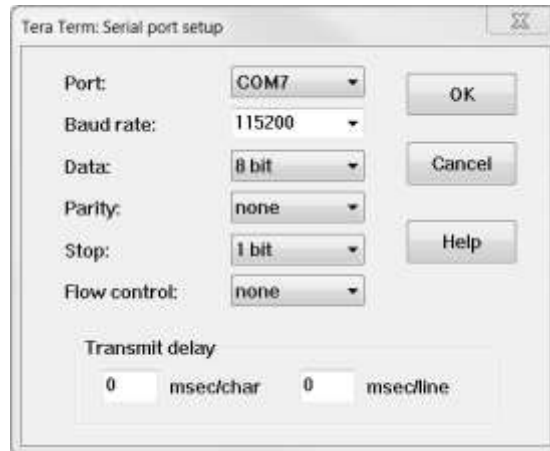

Figure 4-2. Terminal Emulator settings
2. Open a Terminal Emulator program such as TeraTerm with the settings shown in Figure 4-2. Note that the COM port will be different for each user. See Windows to find the PUART COM port number.